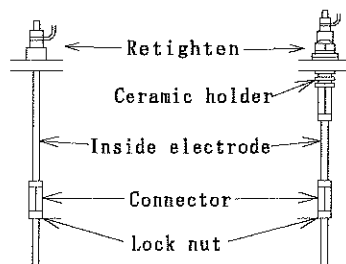

Fig. 11
- (2) If the inside electrodes turned, retighten the hex. nut inside terminal box. (See Fig. 11)